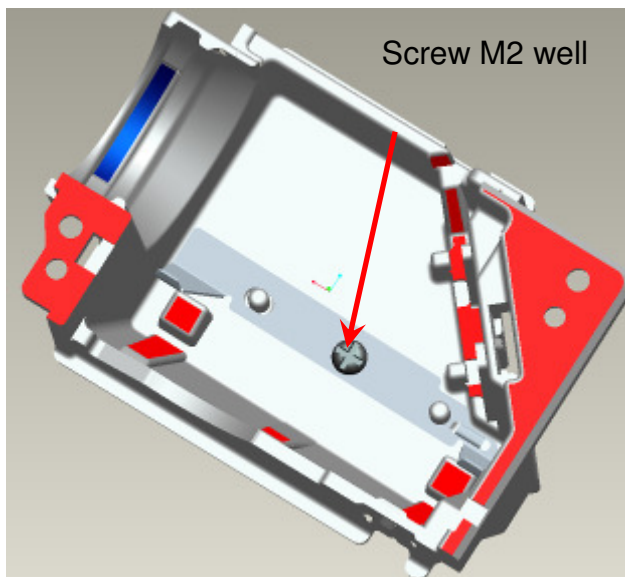

Fig. 3-6
- (1) Place "Clip CM Front" first, and screw well (Fig. 3-6).